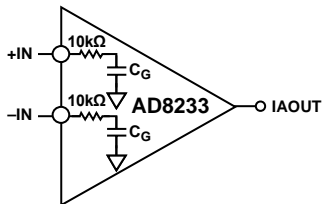

Figure 60. RFI Filter Without External Capacitors
Radio frequency (RF) rectification is often a problem in applications where there are large RF signals. The problem appears as a dc offset voltage at the output. The AD8233 has a  $15\ \text{pF}$  gate capacitance and  $10\ \text{k}\Omega$  resistors at each input. This forms a low-pass filter on each input that reduces rectification at high frequency (see Figure 60) without the addition of external elements.